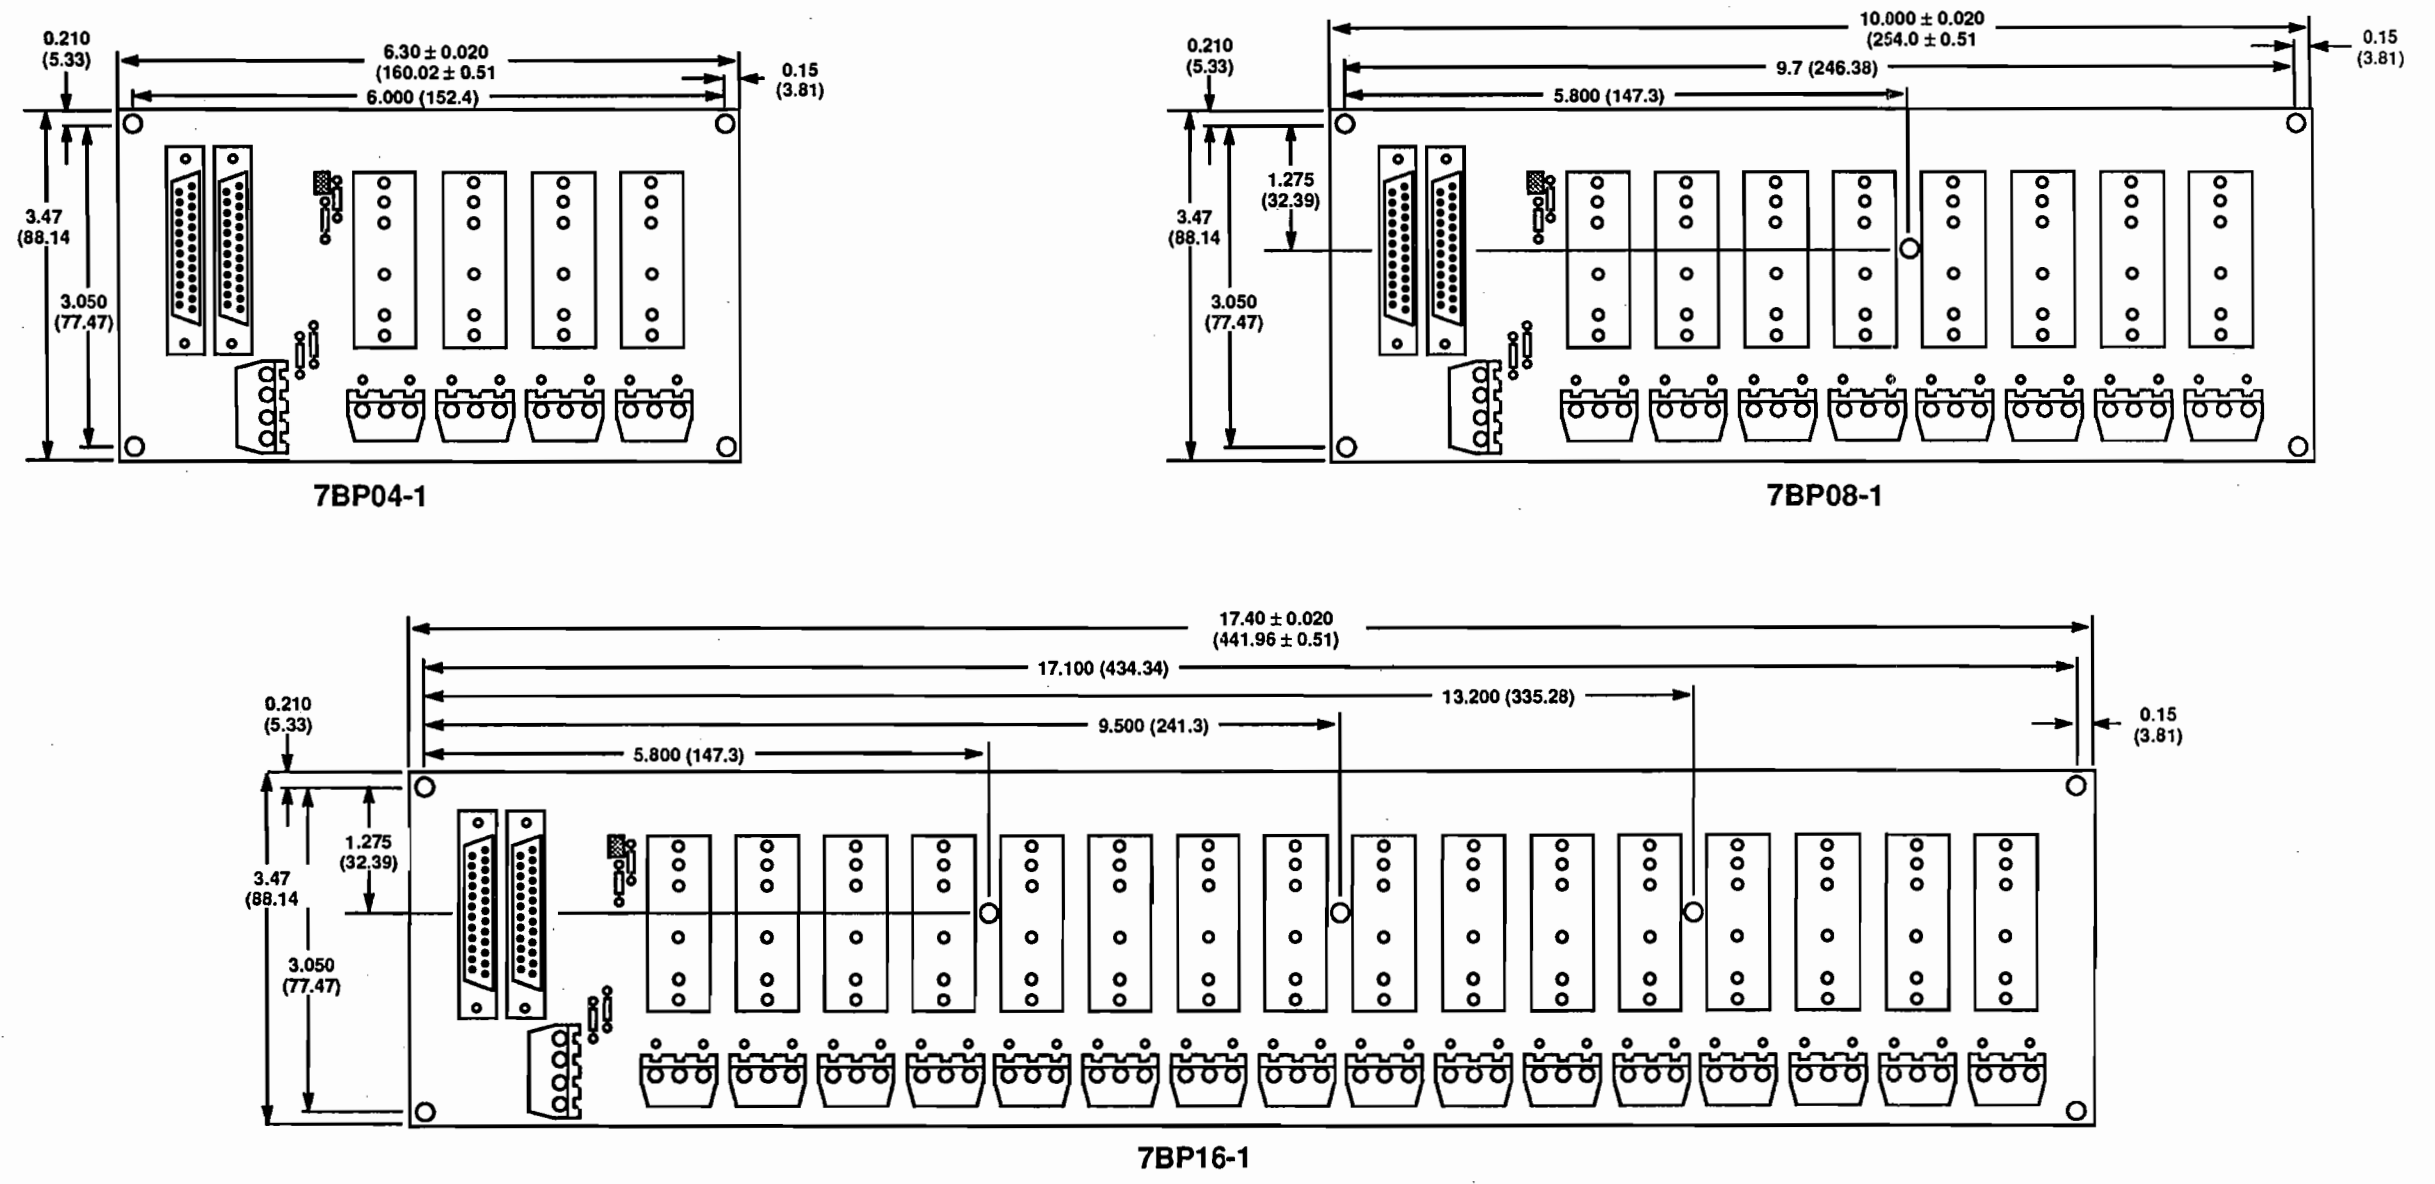

Figure 2-3. Location of Mounting Holes
1. Mark the location of the mounting holes used to support the backplane, as shown in Figure 2-3. Note that the dimensions are given both in inches and in millimeters (shown in parentheses).